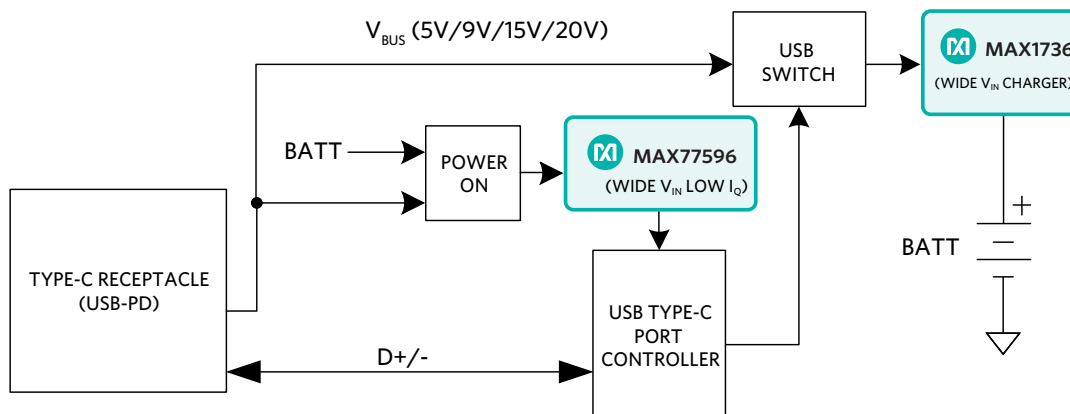

Figure 34. MAX77596 Wide V_{IN} Buck Converter for USB Type-C Port Controller
Prevailing USB Type-C technology provides greater power transfer by increasing USB voltage from 5V to either 9V, 15V, or 20V. Mobile devices employ USB port controllers to negotiate battery-charging conditions. Moreover, the port controller power supply requires a wide input voltage range to support USB Power Delivery 3.0 (PD) specifications. The **MAX77596** (Figure 34) regulates output voltage from the default 5V USB voltage or up to 24V to meet all PD 3.0 voltage range specifications. In addition, the port controller is always-on to monitor when a device is plugged in. This requires a low I_Q to reduce power consumption and extend battery life. The MAX77596 provides a $1.1\mu\text{A}$ quiescent current to continuously power the port controller without excessive battery drain. The features of the MAX77596 make it an ideal power supply for USB port controllers.